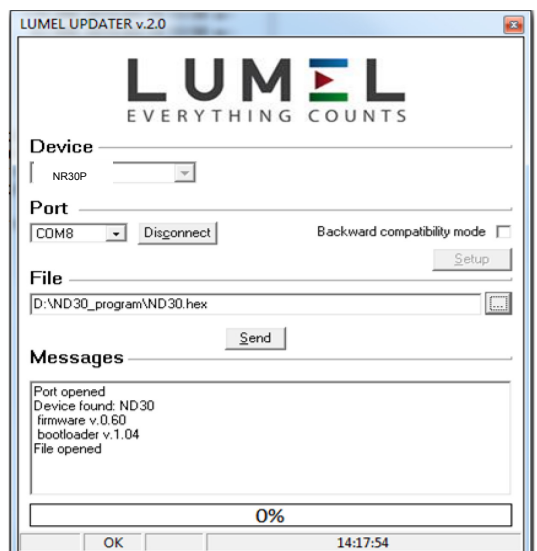

Fig.24. View of program window: a) eCon, b) firmware upgrade
After starting eCon the serial port, speed, mode and meter address should be set in the settings. Then select NR30PNET meter and click Configure To read all the settings, click the down arrow, then the floppy icon to save the settings to a file (to restore them later). After selecting *Update firmware* (in the upper right corner of the screen) *Lumel Updater* (LU) window will open - Fig. 24.b. Press *Connect*. *Messages* information window contains info about the progress of the upgrade process. When the port is properly opened the display shows: *Port opened*. There are two ways to enter the upgrade mode: